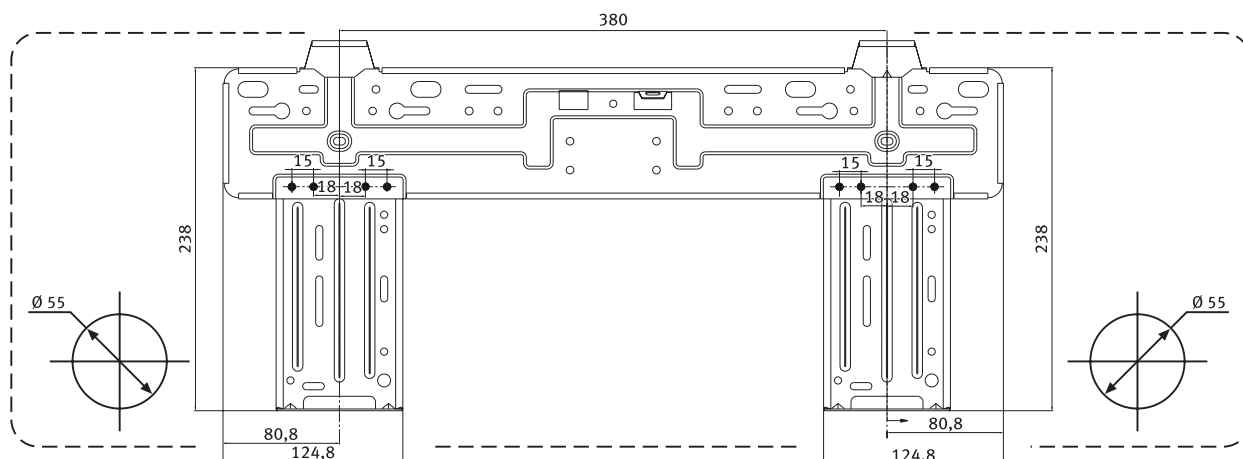

Fig. 9.6 Mounting plate for 3-025 WMNI and 3-035 WMNI.
In this case, a suitable hole must be made in the wall behind the unit (see Figures 9.6 and 9.7).
- Drill a hole in accordance with the diameter and position as indicated in Figures 9.6 and 9.7, ensure the hole is slightly descending to the outside to allow for a fall in the drain line.
In this case holes do not have to be made in the wall since the indoor unit body has knock outs which can be opened to allow the pipes to exit the unit: choose the most convenient one for the desired outlet position (see Figures 9.6 and 9.7).